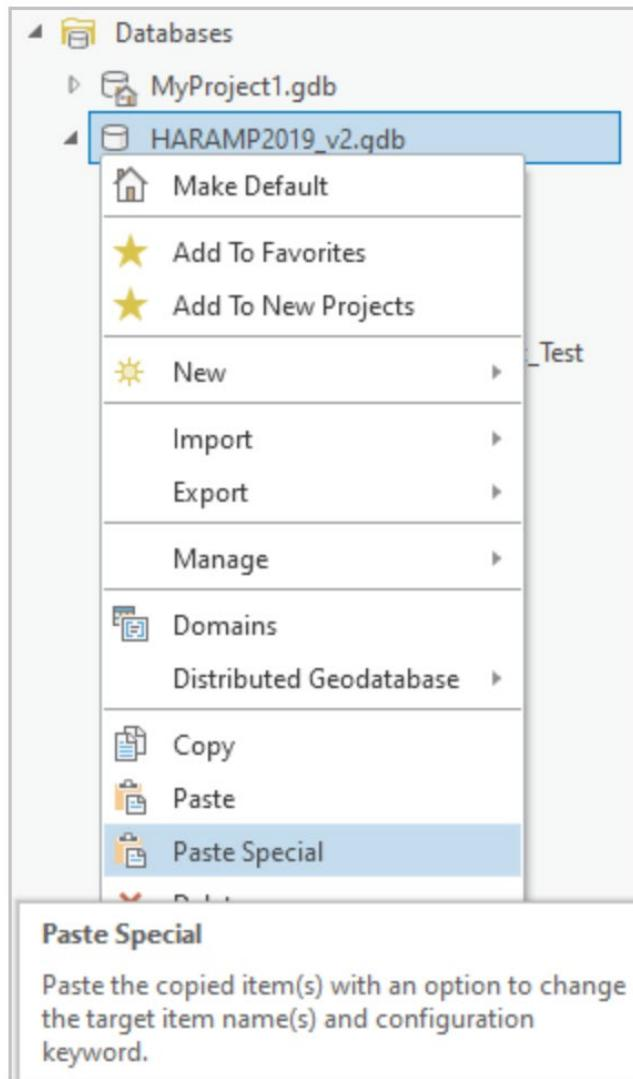

Figure 6.6 Screenshot in ArcGIS Pro of how to copy and paste the template.
3. Right click on the Geodatabase (in this case HARAMP2019.gdb) and click paste special (Figure 6.6).